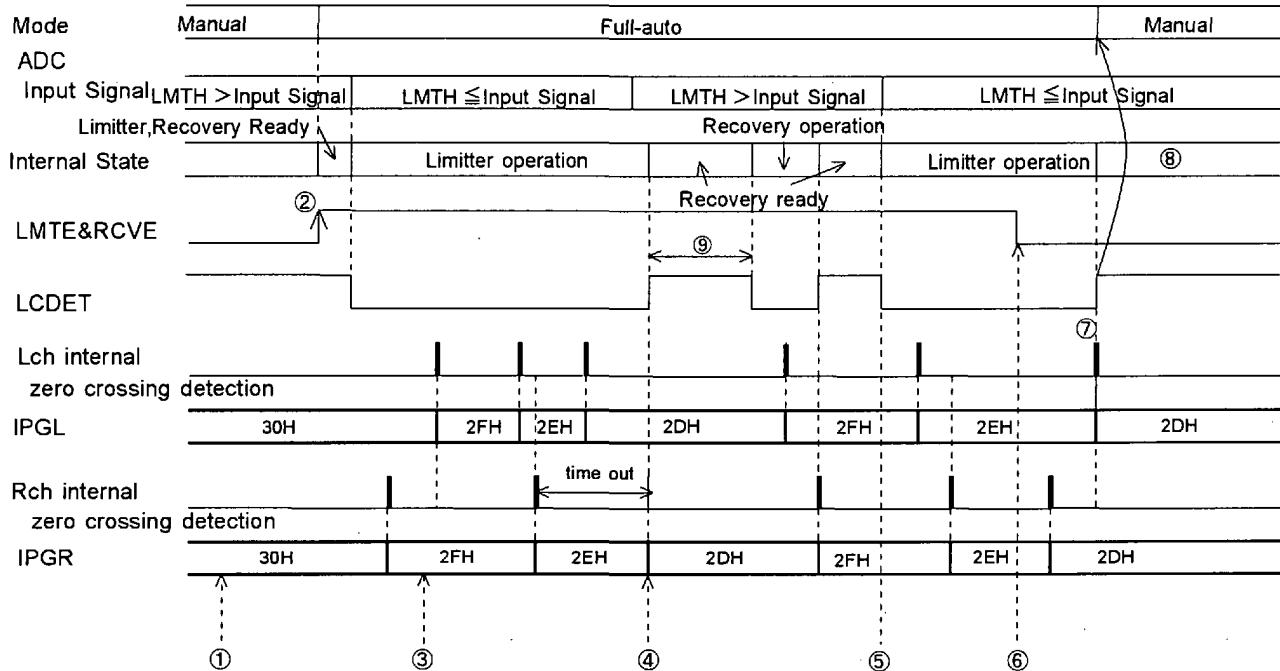

Figure 9 . Control example of full-auto mode operation (LMAT=RATT: 1 step, ZENM=ZELM="1")
- ② WR(LMTE=RCVE="1"): After the registers concerned in the auto limitter operation is set up and confirming the zero crossing flags(ZFIPL, ZFIPR)="1", LMTH and RCVE are set "1".
- ③ WR(IPGA="31H"): As the operation is full-auto mode, writing by uP is ignored.
- ④ The ready of recovery starts.
- ⑤ As the input signal of ADC exceeds LMTH, the recovery operation (in the figure, recovery ready) is discontinued and the limitter operation starts.
- ⑥ WR(LMTE=RCVE="0"): The full-auto mode operation is completed.
- ⑦ In Figure 9 , since "0" is written to LMTE& RCVE during the ATT operation, the operation changes to the manual mode after completing ATT operation. After confirming LCDET="1", it is possible to change the each register set-up. If LMTE&RCVE are set "0" during the full-auto mode operation, LCDET becomes "1" after the max "1" ATT/GAIN operation is completed by internal state.
- ⑧ In this case, the input signal of ADC exceeds LMTH, the auto limitter does not operate because of LMTE=RCVE="0".
- ⑨ After the limitter operation is completed, the AK4516A waits for the time set by WTM1-0. If the input signal does not exceed (LMTH - 2dB), the recovery operation is executed. After the waiting time finishes the next waiting time starts immediately. In recovery ready, the waiting timer is reset under the condition of (LMTH - 2dB) ≤ Input Signal < LMTH. And the timer starts under the condition of (LMTH - 2dB) > Input Signal.